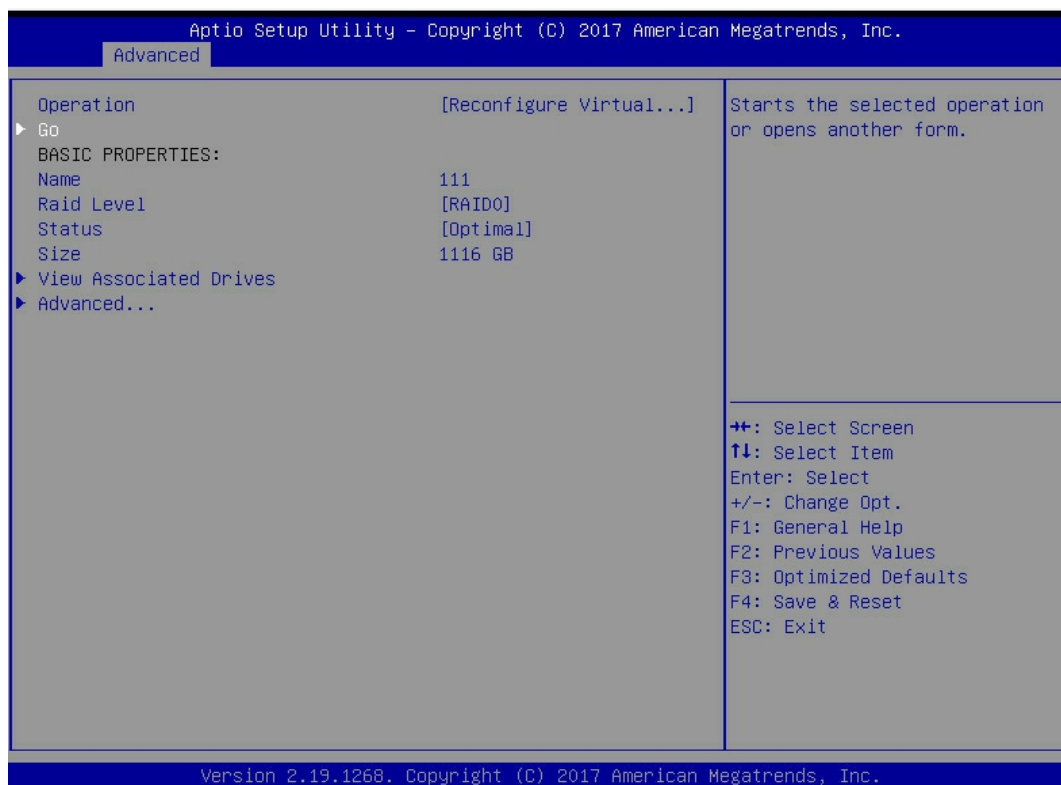

Figure 6-94
- d) Enter the interface shown in figure 6-94, select go and press enter.
✧ Figure 6-94 select go